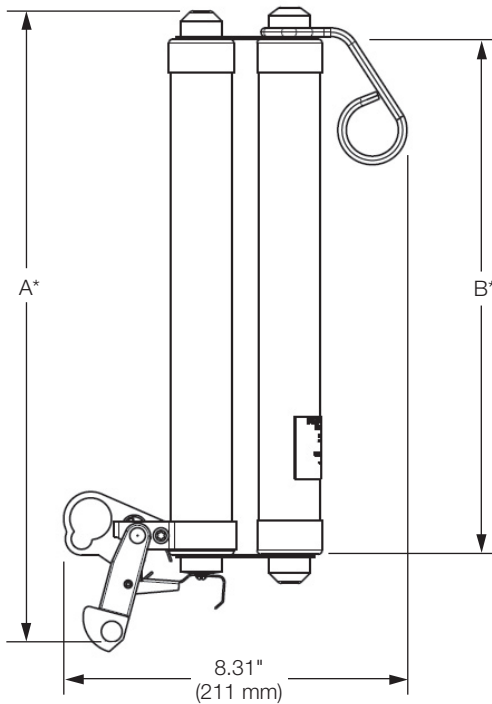

**Figure 3. ELF fuse in interchangeable cutout after dropping open due to operation of dropout actuator.**
**Table 4. Recommendations for Distribution Transformers in Three-Phase Applications (Refer to Figure 3 for primary voltage connections, Figures B, C, E, and F) †**
When the ELF fuse clears a fault, the dropout actuator operates and allows the fuse to drop open in the cutout. (Refer to Figure 3.)